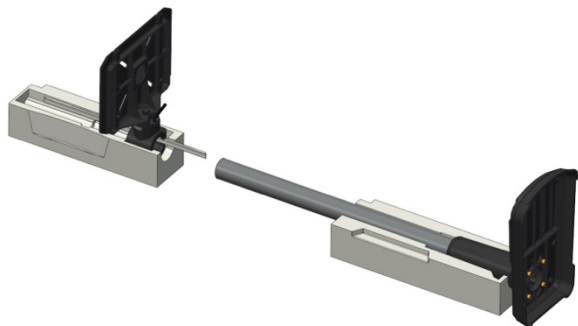

Figure 6-7
1. Position and align the table/rack assembly with the column/base assembly as shown in Figure 6-7.